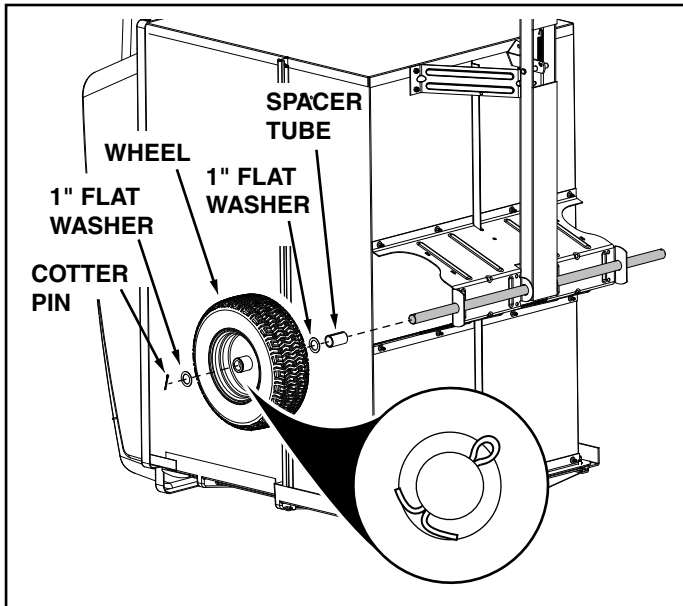

FIGURE 4
5. Assemble a spacer tube, a 1" flat washer, a wheel (valve stem facing out), and another 1" flat washer onto the axle as shown in figure 4. Secure the wheel with a cotter pin, spreading the ends of the pin. Repeat on other end of axle.